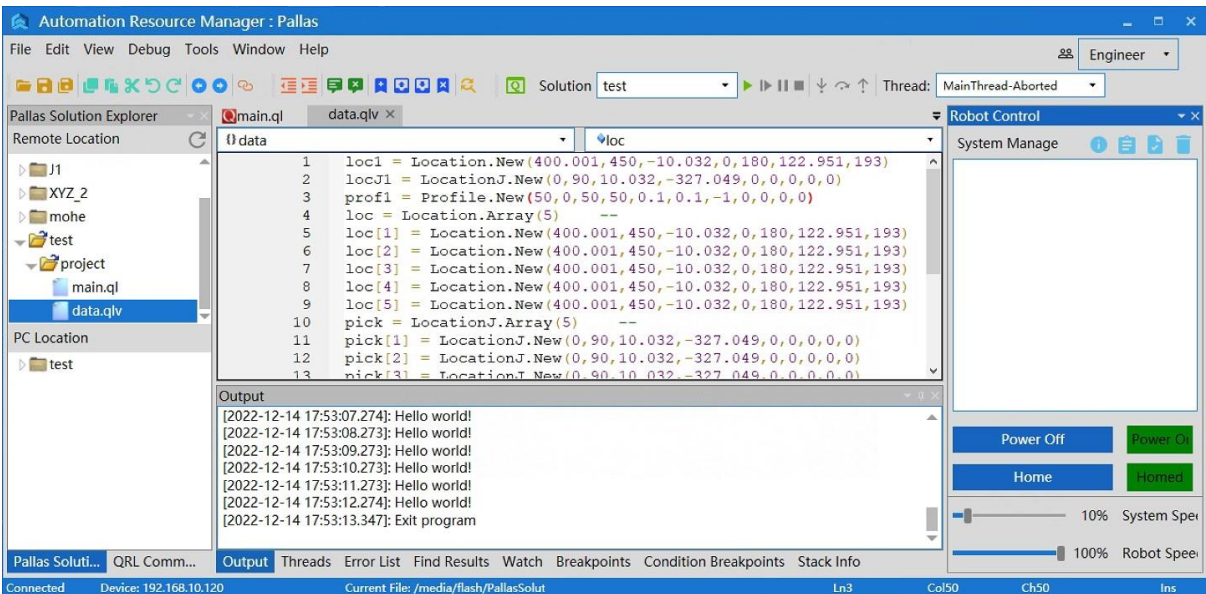

Figure 6-42 "data.qlv" program content
**Step 7** Click "IDE Edit", and the program contents of "data.qlv" will appear in the ARM debugging interface, showing the point and motion parameter information added in the above steps, as shown in Figure 6-42.